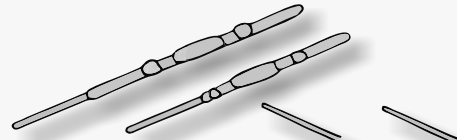

Figure: 22 Notice four rounded points
Spraying the front wire casts a shadow on the back one. So the coating ends right at the crossings. This is where the maginot (*front line*) can appear (figure 22,23,24) So each hashtag shape can produce four (4) major honours. That comes in handy for the quantum computing bit.